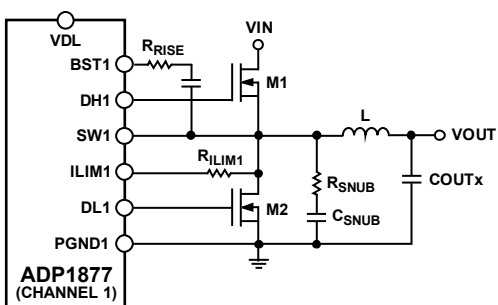

Figure 35. Application Circuit with a Snubber
In any high speed step-down regulator, high frequency noise (generally in the range of 50 MHz to 100 MHz) and voltage overshoot are always present at the gate, the switch node (SW), and the drains of the external MOSFETs. The high frequency noise and overshoot are caused by the parasitic capacitance, C_{GD} , of the external MOSFET and the parasitic inductance of the gate trace and the packages of the MOSFETs. When the high current is switched, electromagnetic interference (EMI) is generated, which can affect the operation of the surrounding circuits. To reduce voltage ringing and noise, it is required to add an RC snubber between SW and PGND for applications with more than 10 A output current, as illustrated in Figure 35. Snubbers may also be needed in applications where the duty cycle in one of the channels is higher than or equal to 50%. In most applications, R_{SNUB} is typically 2 Ω to 4 Ω , and C_{SNUB} typically 1.2 nF to 3 nF.
In most applications, a component size 0805 for R_{SNUB} is sufficient. However, the use of an RC snubber reduces the overall efficiency, generally by an amount in the range of 0.1% to 0.5%. The RC snubber cannot reduce the voltage overshoot. A resistor, shown as R_{RISE} in Figure 35, at the BSTx pin helps to reduce overshoot and is generally between 2 Ω and 4 Ω . Adding a resistor in series, typically between 2 Ω and 4 Ω , with the gate driver also helps to reduce overshoot. If a gate resistor is added, then R_{RISE} is not needed.